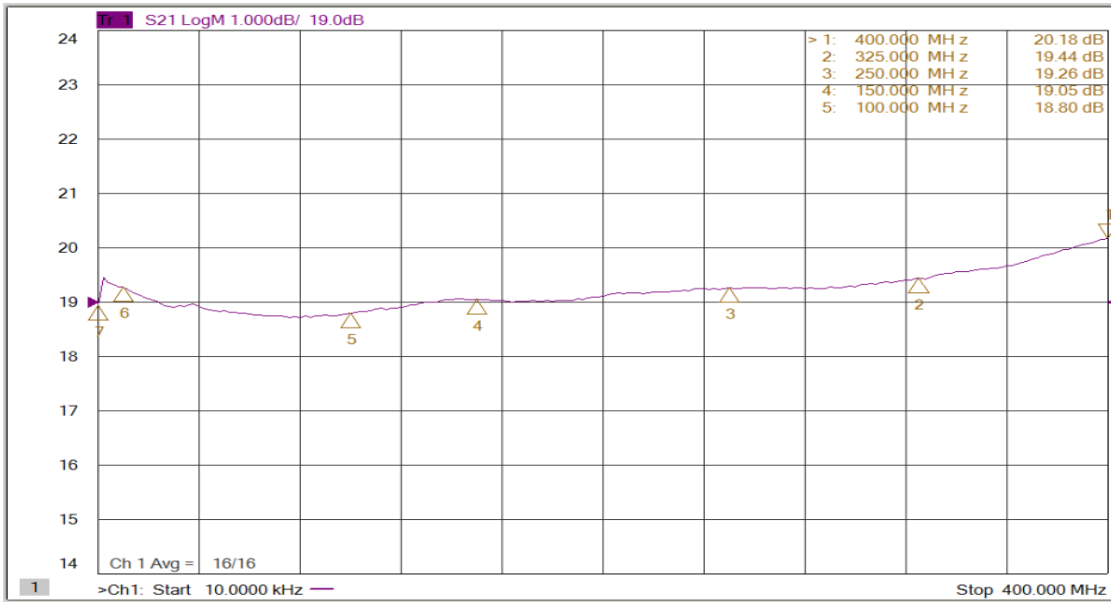

Figure 4-4. Typical A1 Pre-Amplifier Response
2. The typical response for the A1 Pre-Amplifier (at maximum gain setting) is shown in Figure 4-4.